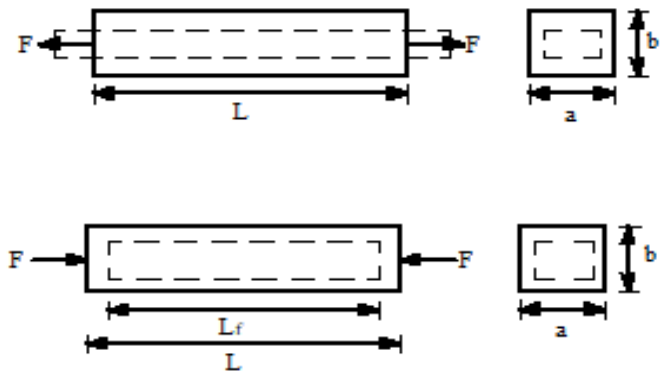

Fig. 1.5
**Linear Strain:** When a member is loaded it develops stress. The stressed member will undergo a change in its linear dimensions (Fig. 1.5). This change in dimension per unit is called strain. Strain is represented by the symbol  $\epsilon$  (epsilon). Strain does not have a unit.